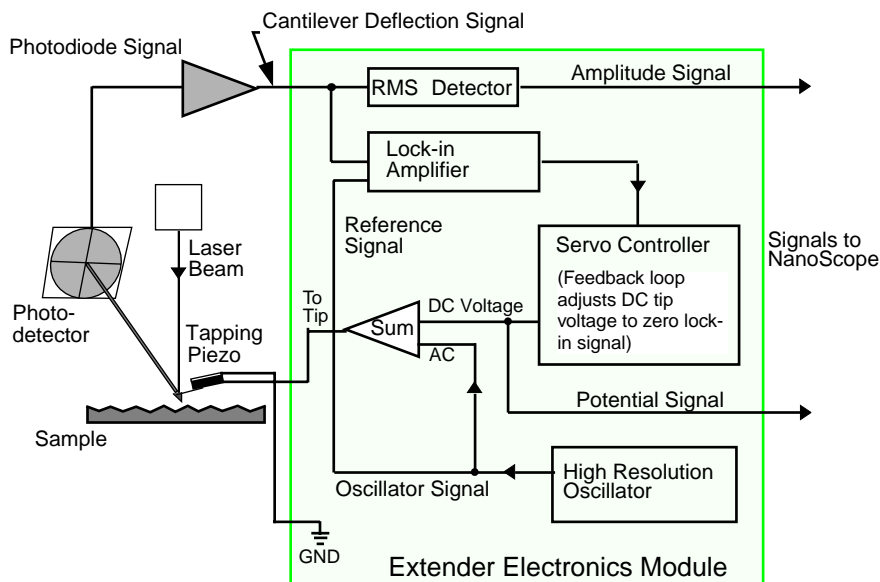

Figure 14.22. Simplified block diagram of extender electronics module in surface potential mode.
2. Locate the jumpers on the electronic board, visible in a “window” on the bottom of the MultiMode per Figure 14.5. As shipped from the factory, the baseplate jumpers should appear as shown in Figure 14.22.
When voltage is applied directly to the sample, there is no need to reconfigure the jumpers. They should remain jumpered as shipped from the factory (Figure 14.22), and the sample should be electrically insulated from the chuck.